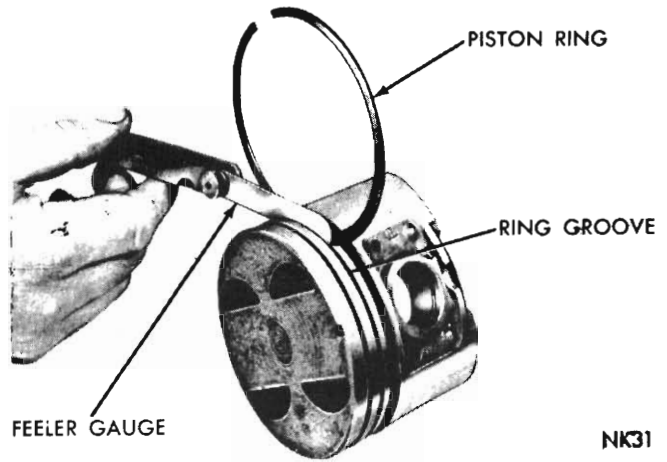

Fig. 34 - Measuring piston ring clearance
(1) Measure piston ring gap about 2 inches from bottom of cylinder bores in which it is to be fitted (an inverted piston can be used to push the rings down to ensure positioning rings squarely in the cylinder wall before measuring).
(2) Insert feeler stock in the gap. The ring gap should be between .010 to .020 inch for compression rings and .015 to .062 for oil ring steel rails in standard size bores (for new service rings). Maximum gap in .005 inch O/S bores should be .060 inch for compression rings and .070 inch for oil ring steel rails.
(3) Measure side clearance between piston ring and ring land (Fig. 34). Clearance should be .0015 to .003 inch for the top compression ring and the intermediate ring. Steel rails service oil ring should be free in groove, but should not exceed .005 inch side clearance.